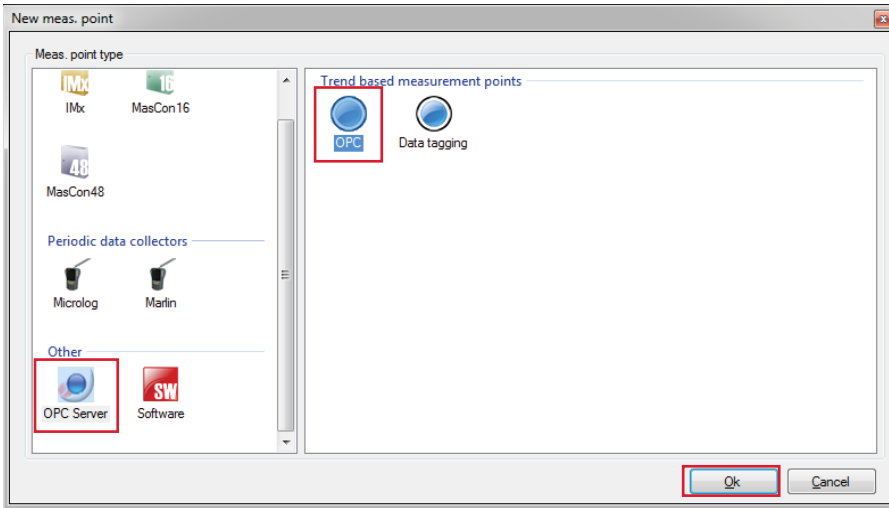

Fig. 8. Select OPC Server and then OPC for the trend based measurement points.
- When adding a measurement point in a machine, select **OPC Server** and **OPC** trend based measurement point (→ **fig. 8**).